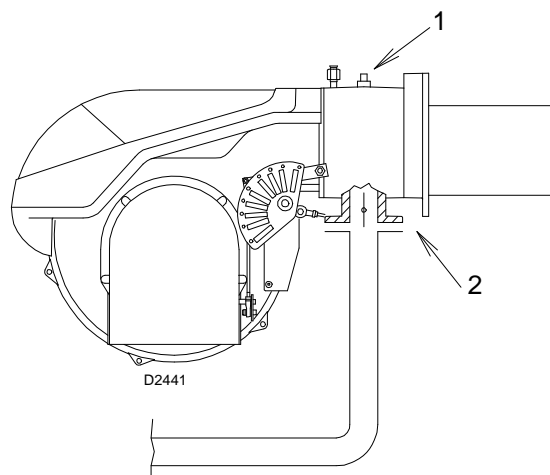

Fig. 29
Gas manifold pressure measured at test point 1) (Fig. 29), with:
- subtract the combustion chamber pressure from the gas pressure measured at test point 1)(Fig. 29).
- Gas pressure at test point 1)(Fig. 29) = 8.0" WC